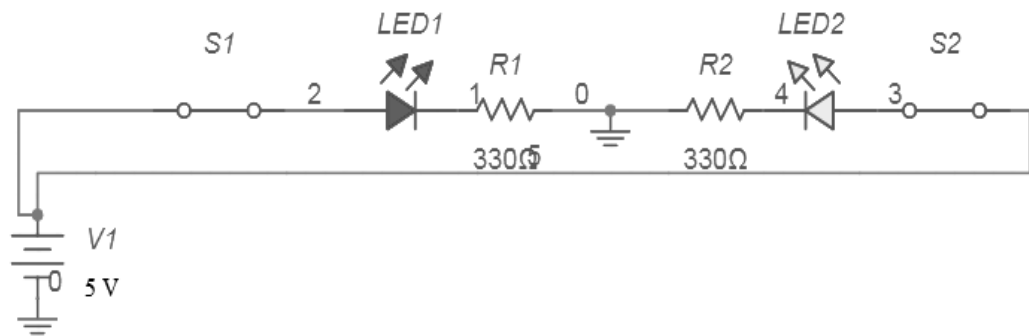
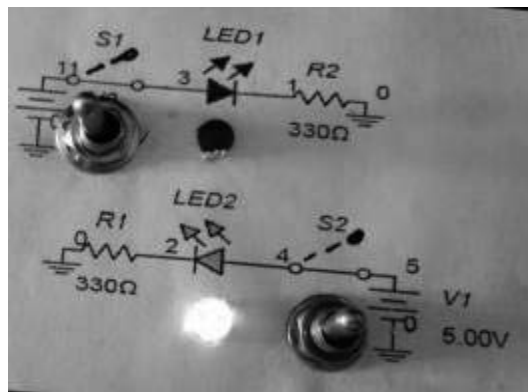
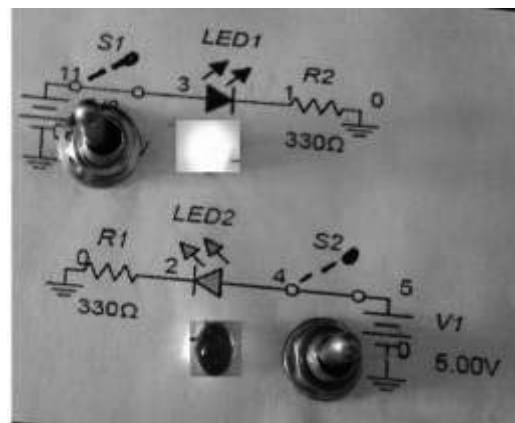
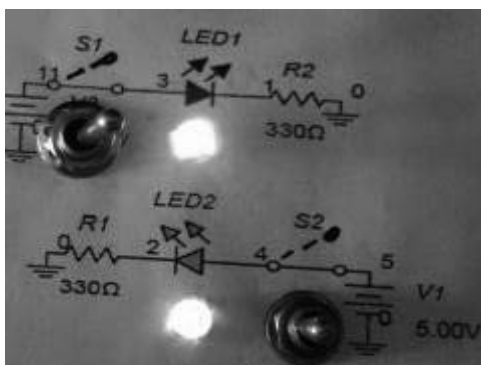

Fig 2.2: Circuit of Full duplex used in laboratory
Fig 2.3: Experimental set up of Full duplex used in laboratory when S2 is closed
Fig 2.4.: Experimental set up of Full duplex used in laboratory when S1 is closed
Fig 2.5: Experimental set up of Full duplex used in laboratory when S1 and S2 is closed
a) Sample Circuit(Fig 2.2)/Experimental setup (Fig 2.3 / Fig 2.4/ Fig 2.5)
1. Connect the electrical circuit as shown in figure 2.2.